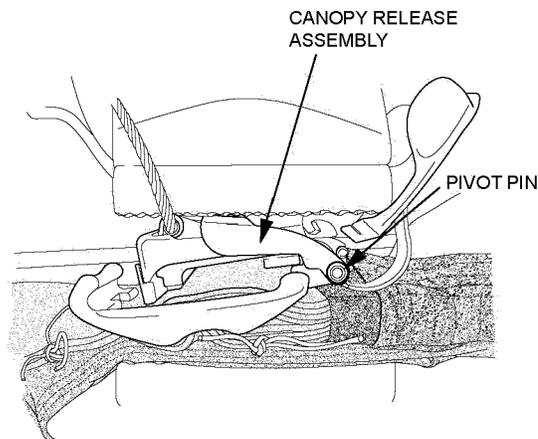

Figure 1. Removal of Canopy Release Assembly
- b. Place fitting in a vice with the rolled edge of the cover pivot pin facing up (Figure 1).